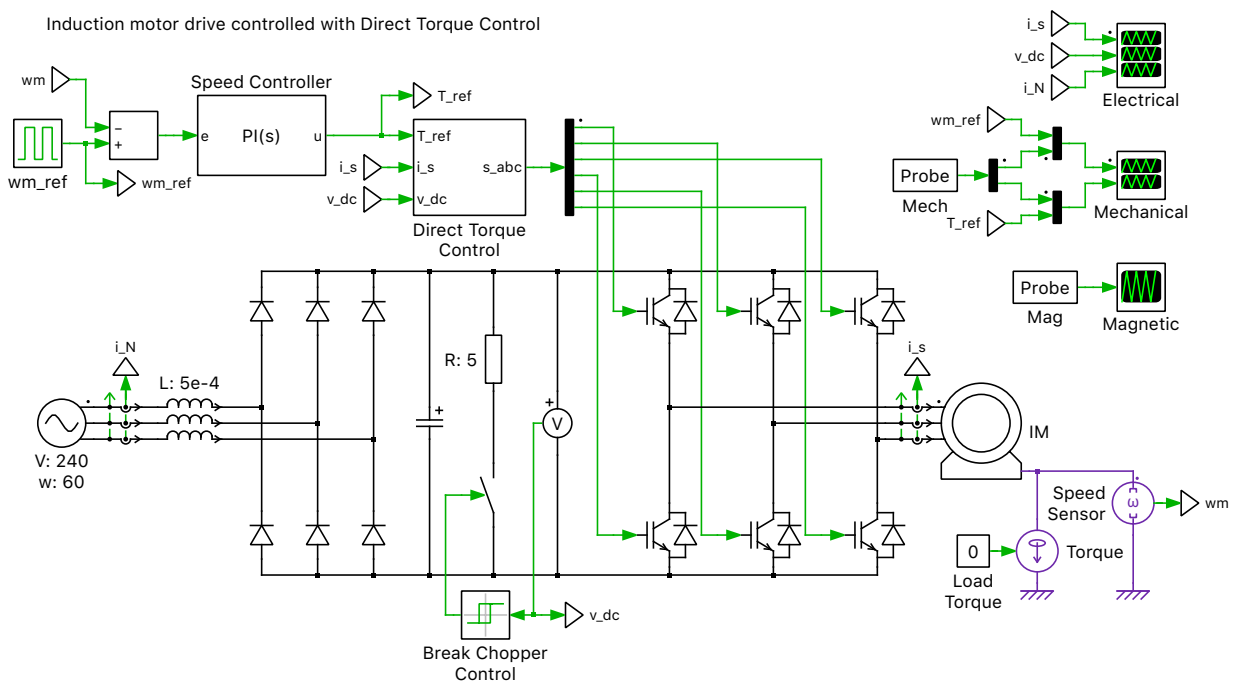

Fig. 1: Induction machine drive controlled with DTC circuit
This example demonstrates an Induction Motor (IM) drive with an outer Speed Controller and an inner Direct Torque Controller. Additionally, a Brake Chopper controller is implemented to clamp the voltage of the DC-link capacitor of the back-to-back converter. An overview of the system is given in Fig. 1.